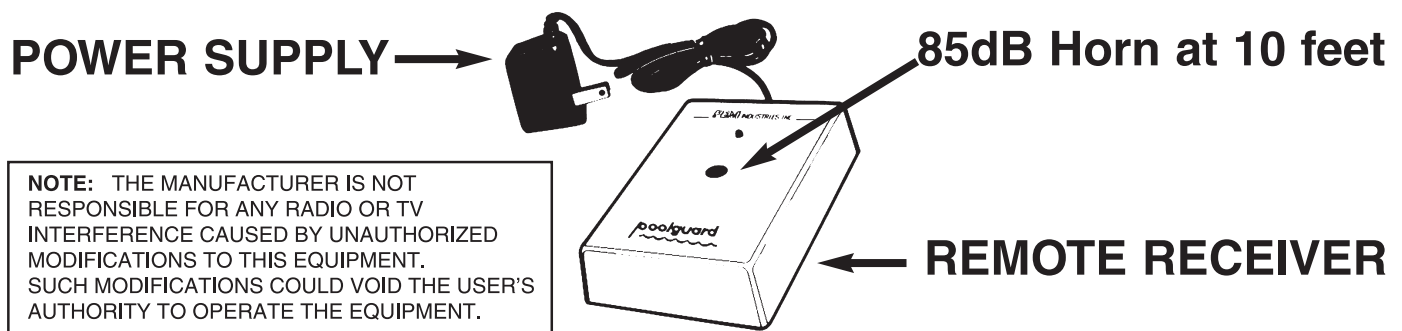

FIGURE 5
- A coded pulse receiver (Remote Receiver), (See Figure 5).
- A standard wall outlet power supply, (See Figure 5).